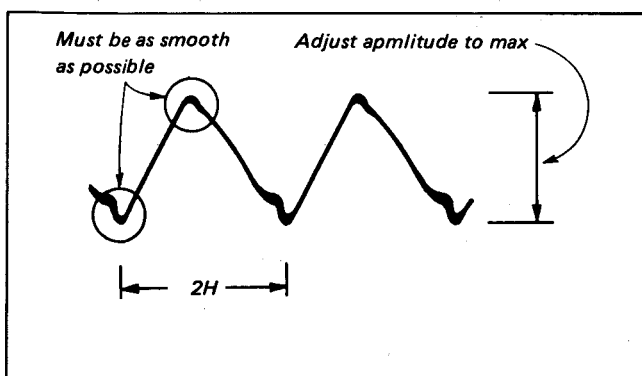

Fig. 5-39. SECAM ACK fo adjustment
- Adjust LV004 until the amplitude is a maximum. (See Fig. 5-39)